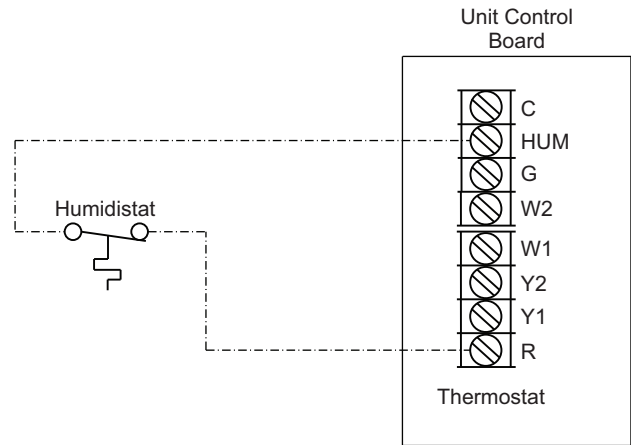

Fig. 45 — Humidistat Connections to UCB
5. Connect one of the leads from the 2-conductor cable to the HUM terminal on the UCB (Unit Control Board). Connect the other lead to the R terminal on the UCB. See Fig. 45.